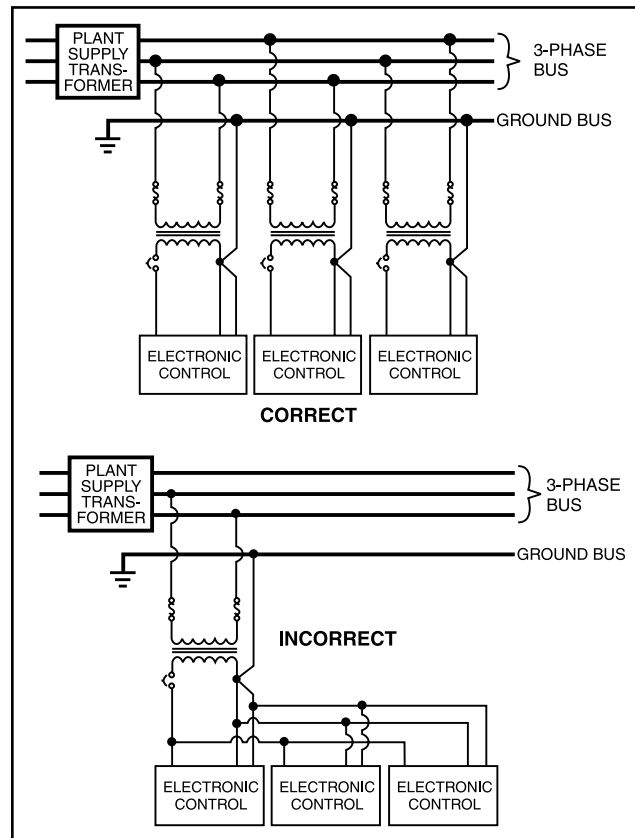

Figure 48
**Never daisy-chain or parallel-connect power or ground wires to electronic control panels.** Each electronic control panel must have its own control power supply and ground wires back to the power source (Plant Transformer). Multiple electronic control panels on the same power wires create current surges in the supply wires, which may cause controller malfunctions. Daisy-chaining ground wires, taking them to ground at each device, allows ground loop currents to flow between electronic control panels which also causes malfunctions. See Figure 48.